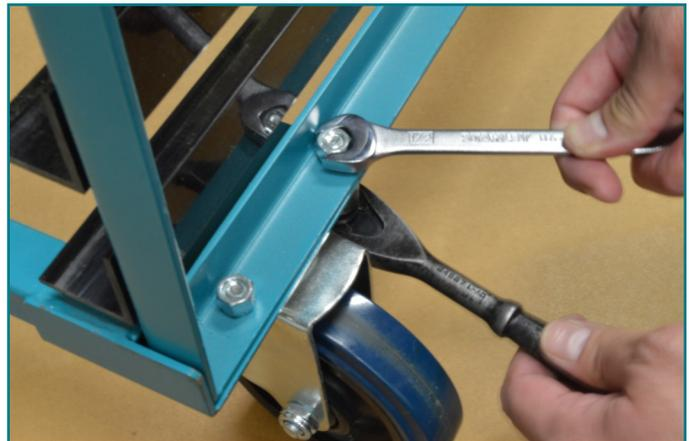

Figure 8. Attaching non-locking rear casters to bottom cross members and upright.
2. Attach the two non-locking casters to the bottom rear corners of the unit using 10 x 1/2" nuts, washers, and bolts as shown in Figure 8.